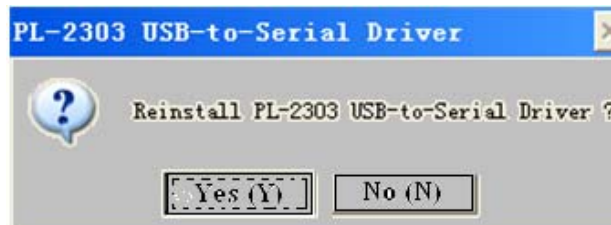

Figure 2-7
If this USB-to-Serial driver has been already installed in this computer, it prompts message "Reinstall PL-2303 USB-to-Serial Driver?", as shown in figure 2-7. If you need to reinstall it, please click "(Yes)Y"; If there is no need to reinstall, click "No (N)" to exit from the USB driver installation.